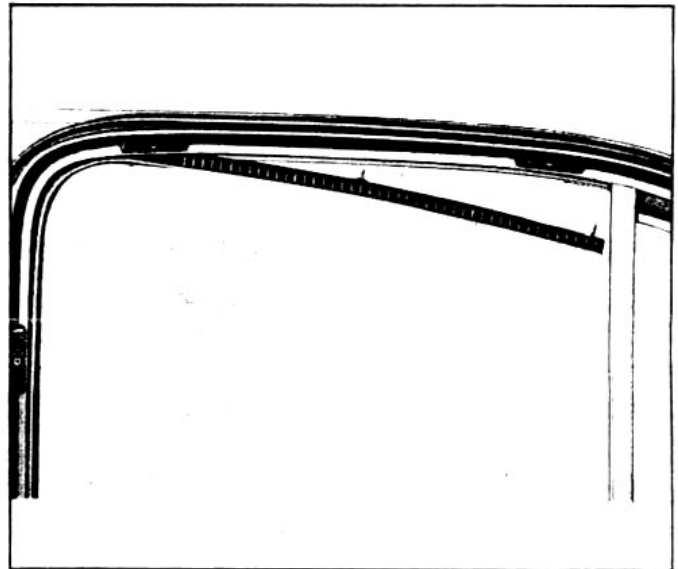

Figure No. 239
After it is fitted to its exact position, prick punch and drill five (5) holes ($\frac{7}{64}$ " or $\frac{1}{8}$ ") through the run channel, as shown in Figure No. 239, and through the inner door metal of the pillar and header and fasten the molding to place.